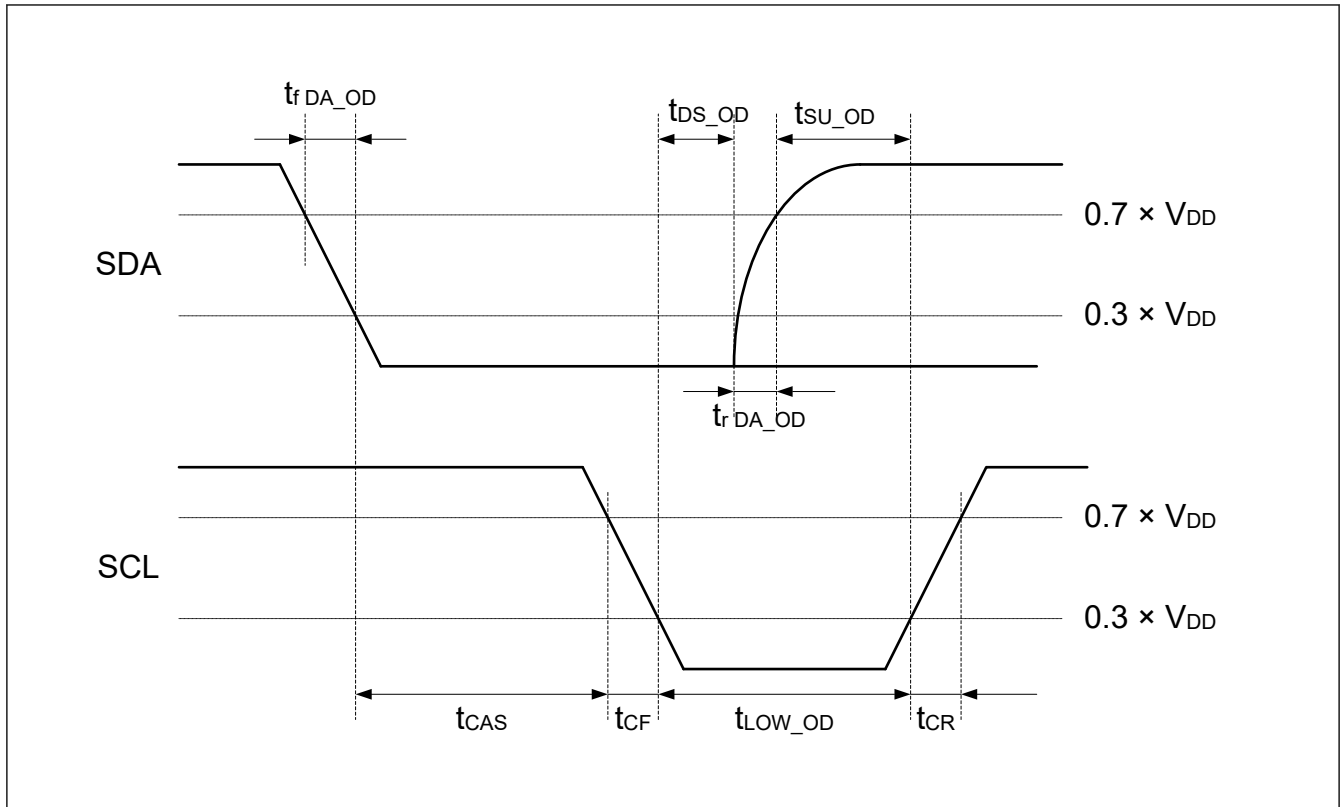

Figure 2.36 I3C START condition Timing
| SCL Clock Low Period   | t LOW_OD   | Figure 2.36    | 200   | —                 | ns      | 1, 2  |
|  | t DIG_OD_L | Figure 2.36    | t LOW_ODmin + t fDA_ODmin | —                 | ns      | —     |
| SDA Signal Fall Time   | t fDA_OD   | Figure 2.36    | t CF                                 | 33                | ns      | —     |
|  |                       | Figure 2.36    |   |                   |         |       |
| Clock After START (S) Condition                                | t CAS      | Figure 2.36    | 38.4  | For ENTAS0: 1 μ   | seconds | 5, 6  |